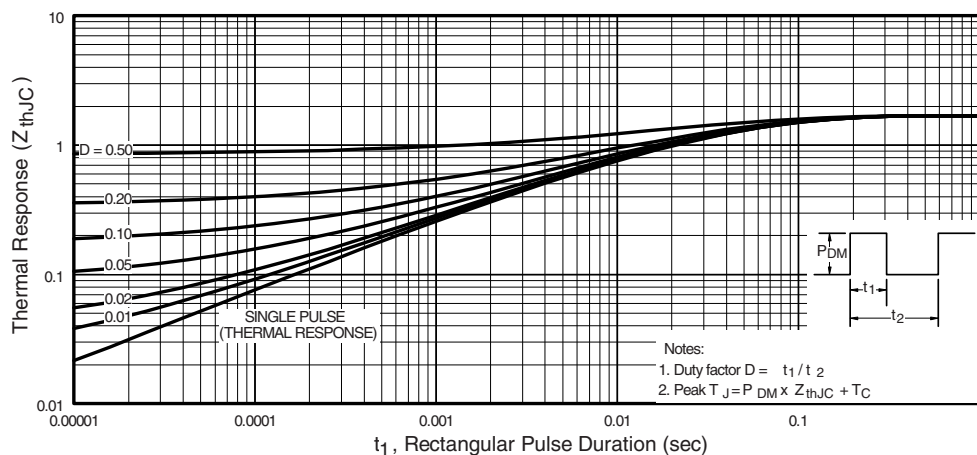

Fig. 11 - Maximum Effective Transient Thermal Impedance, Junction-to-Case
- Repetitive rating; pulse width limited by maximum junction temperature (see fig. 11)